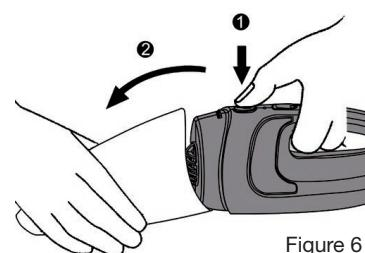

Figure 6
1. Press the dust container lid open button to remove it from the motor unit (Fig. 6).